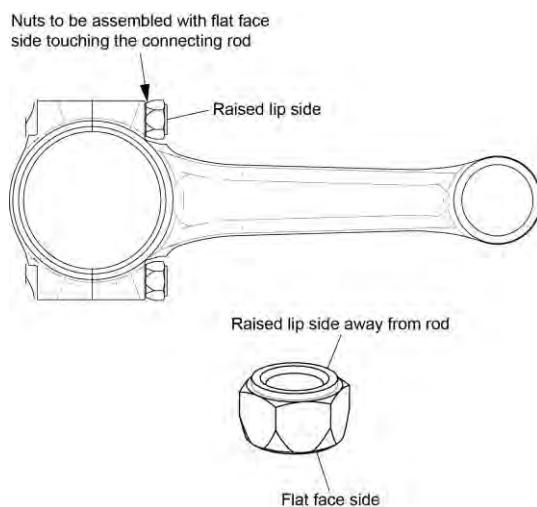

Figure 45
- (9) Install a new nut on each new connecting rod bolt where the flat face of the nut touches the connecting rod as shown in Figure 45.
- (10) Torque the connecting rod bolts per the torque values in the latest revision of Service Instruction No. SI-1458. (Stretch bolts require an initial torque and are then torqued to the correct stretched length.)